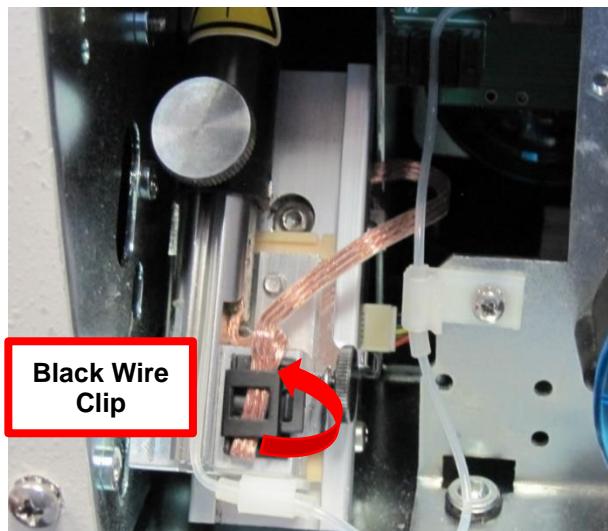

Figure 3
3. Unclip the black wire clip and remove the Probe Wire. Be careful to not damage the probe wire. (Figure 3)